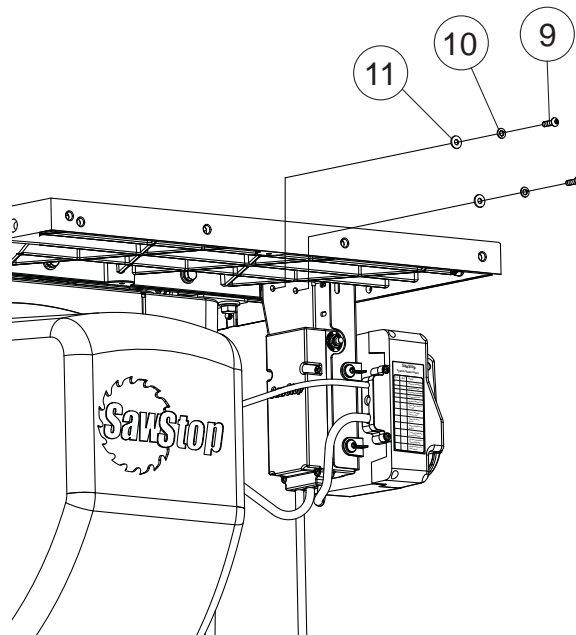

Fig. 29
7. The hardware required to mount the switch box is located in the area with the orange background on the Table Saw Hardware Pack. Remove two M6 x 20 button head socket screws, two M6 lock washers and two M6 washers and place a lock washer followed by a washer on the end of each screw. Mount the switch box under the left extension wing by inserting the screws into the two holes at the upper end of the switch box mounting bracket (see Fig. 28) and threading them into the holes towards the front of the left extension wing (see Fig. 29). Tighten the screws with a 4 mm hex key.